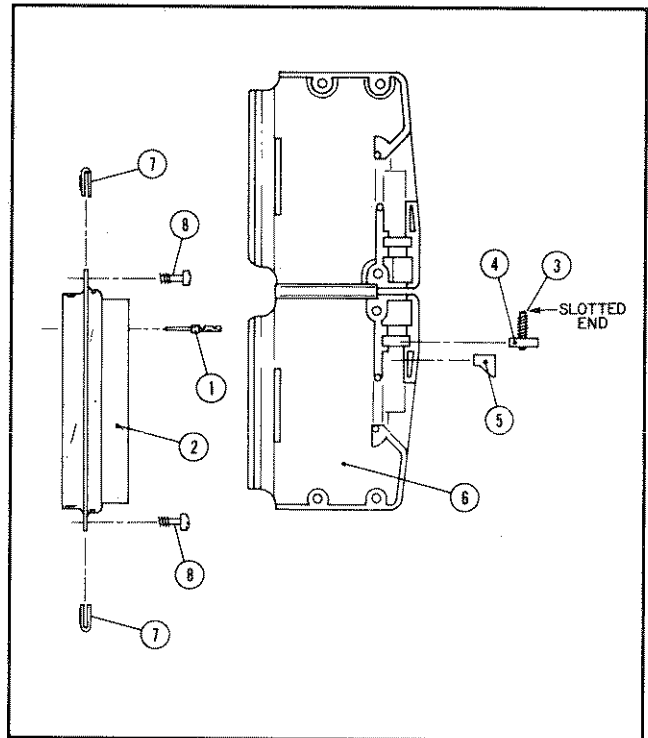

Figure A-1. Mating Connector Assembly
A-17 The following instructions describe assembly of the mating connector provided to interface the user's system with the option connector, J3. Figure A-1 identifies the parts of the mating connector.
- e. Screw a slotted set-screw (3) partially into a square nut (4) and place in position in connector shield assembly (6).
- f. Place strain relief (5) in position in connector shield assembly (6), just under set screw (3). Be certain that strain relief is oriented as shown in Figure A-1.
- g. Place connector pin housing (2) in shield assembly (6) and route cable through cable entrance.
- h. Fold connector assembly (6) and secure with three screws.
- i. Strain relief set screw (3) can now be adjusted from top of connector to clamp firmly on cable.
- j. Clip fasteners (7) onto ends of connector pin housing (2).
- k. Connector can now be plugged onto option connector J3 and secured with two screws (8) into the threaded stand-offs on either side of J3.